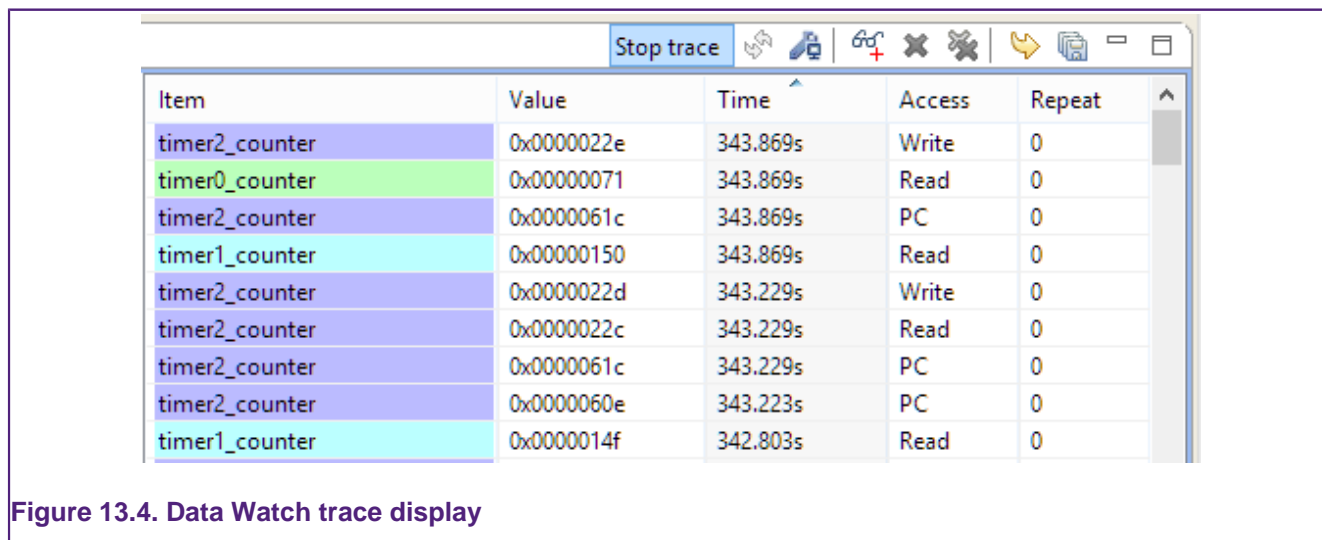

Figure 13.4. Data Watch trace display
- **Enable Trace** - tracing of this item may be enabled or disabled using the checkbox. A maximum of 4 items may be traced at one time. Each traced item is given a color code, so that it may be picked out easily on the trace display (see Figure 13.4).
The trace display shows the traced values of the memory locations. Each location being traced is given a particular color code, to allow all access to it to be easily picked out. See Figure 13.4.